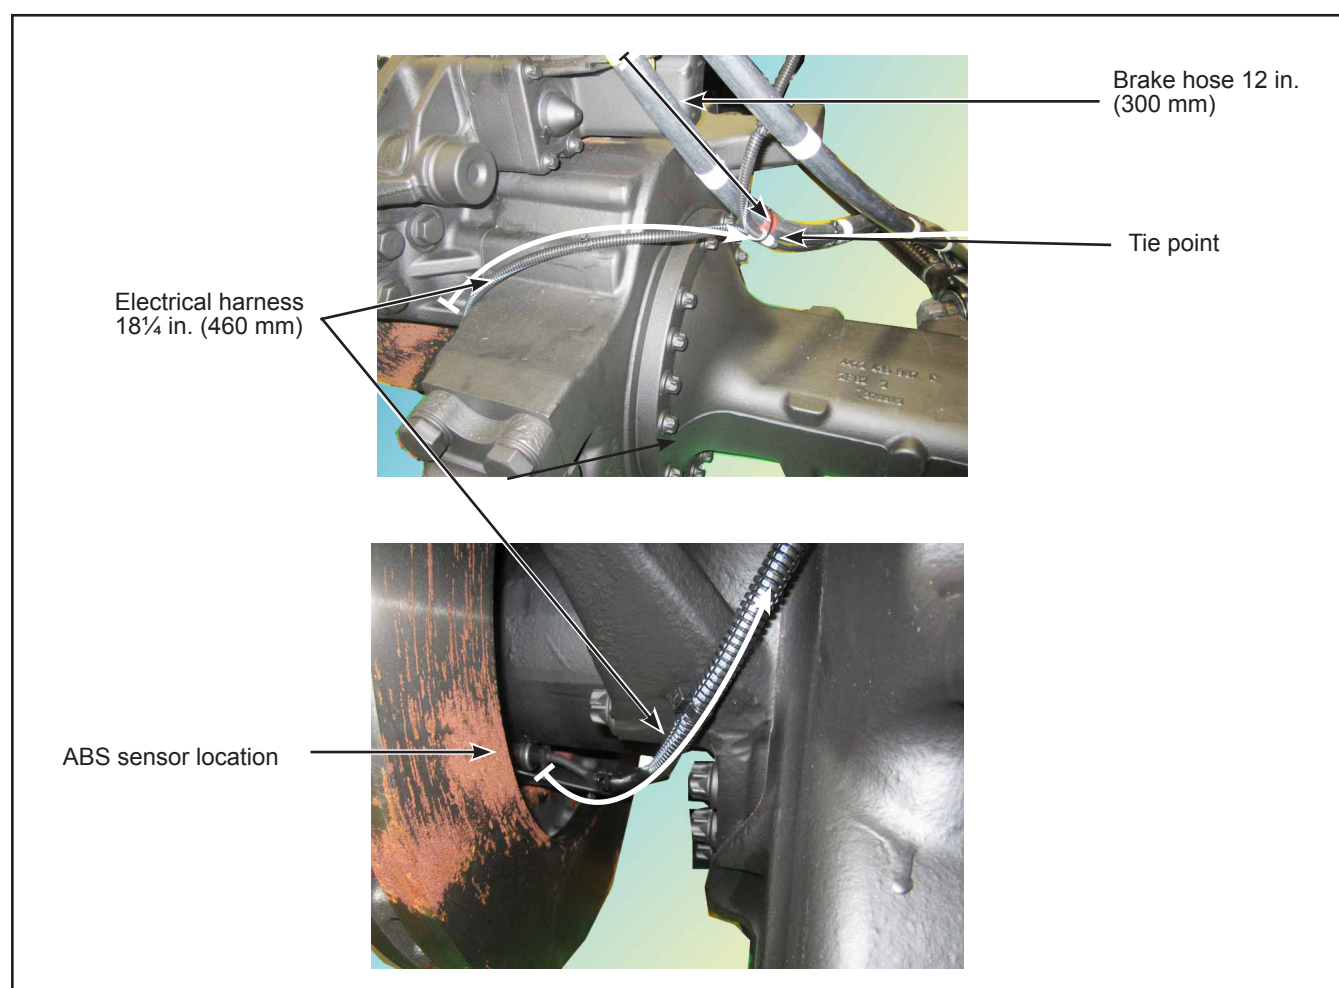

Figure 20 - Driver Side Electrical Harness Routing
- 2.28. Mark the electrical harness at the position indicated in Figure 20.
- 2.29. Mark the brake hose at the position indicated in Figure 20.
- 2.30. Affix the electrical harness to the brake hose with a tie wrap at the tie point indicated in Figure 20. If required, affix with other tie wraps.